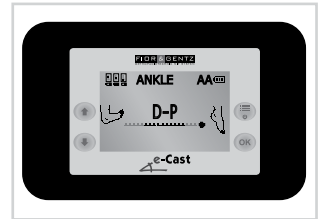
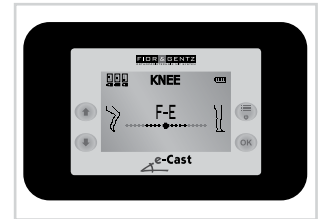

fig. 9
fig. 10
- 6 The position is now set. If you want to change this position, press **Back**. If you want to keep this position, press **Continue**. The patient can sit or lay down again. First, you will see the position of the ankle. With the arrows you can switch between the display of the ankle and the knee position (fig. 9–10). A dot on the bar indicates in which direction you have to move ankle or knee to reach the correct position. When the dot is in the middle, you have reached the correct position (fig. 10). For setting options for the display of the correct position also see paragraph 8.4.1 and 8.4.2.